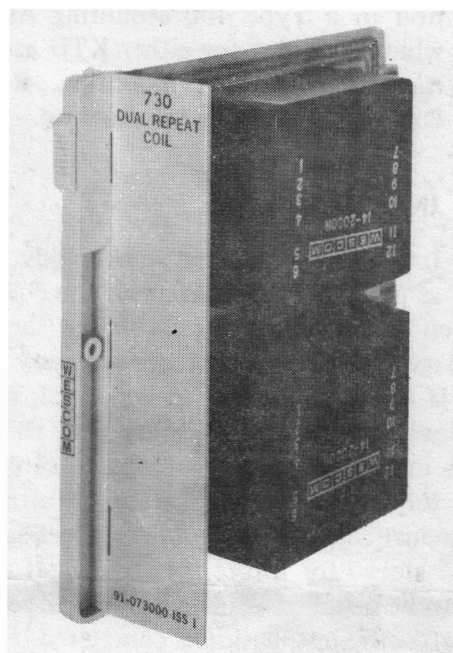

Figure 1. 730 Dual Repeat Coil
1.02 The 730 Dual Repeat Coil (Figure 1) provides two impedance matching line transformers for either two-wire or four-wire operation. Each transformer provides "A" and "B" leads on one side (with a capacitor strapping option) for signaling and talk battery application, and simplex or duplex signaling leads on the other side.
5.03 The 730 Dual Repeat Coil is provided with a strapping option for 600 or 900 ohms (factory strapped for 600 ohms) on either side of either coil. See Figure 1 and the attached schematic diagram.